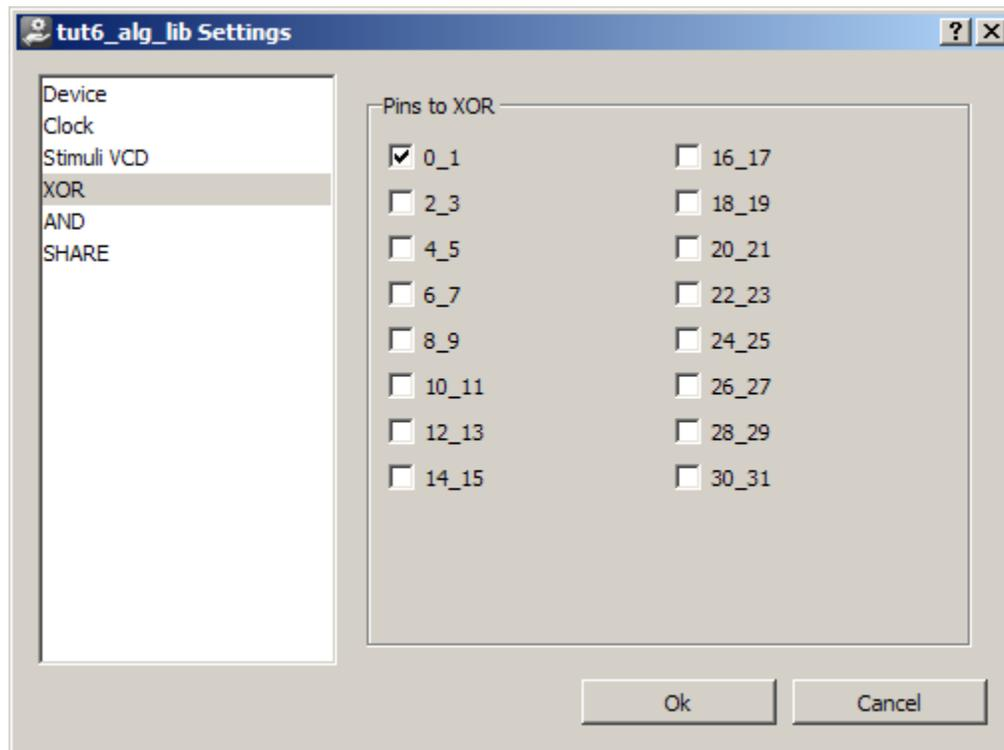
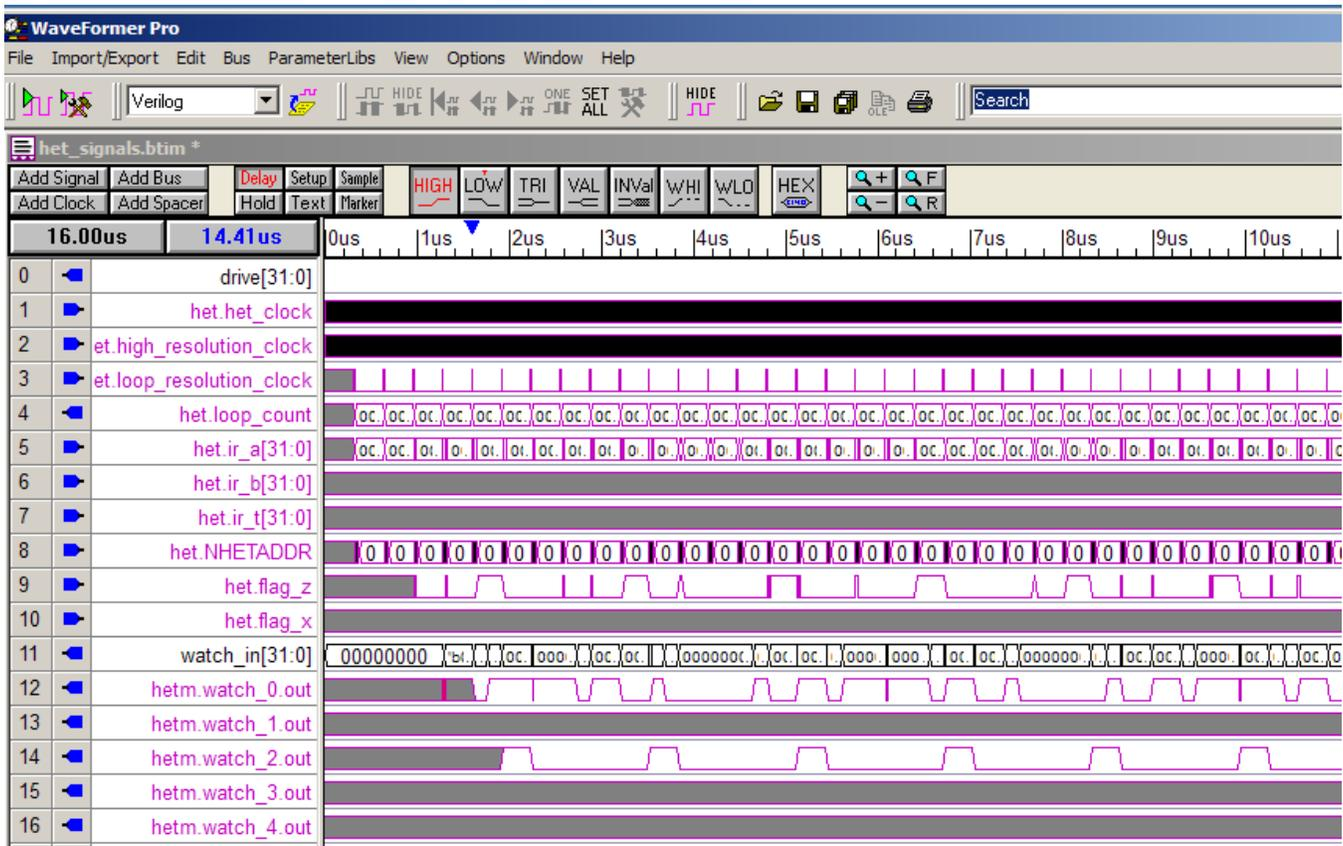

Figure 52. XOR Share Settings
Figure 53. Simulation Results Showing XOR Sharing of Pins 0,1 Output onto Pin 0
12. Right click on the project. Right click to open the project properties dialog. Select XOR from the left pane, and check 0_1 in Pins to XOR (see Figure 52). Click OK to apply the change and close the project properties dialog.
17. Stop the program and switch to the Waveform Viewer to see the results. Your simulation results should match Figure 53. Compare this result to the result shown in Figure 52. Specifically, note how the individual signals from HET pins 0 and 1 from Figure 52 have been combined into a single output on HET pin 0 in Figure 53. This shows how the XOR share function operates. In addition to simply applying the 'XOR' logical function to two different pins, the XOR share feature of the HET allows the same physical pin to be updated twice during a single loop resolution period: once by operating on HET pin 0 and again by operating on HET pin 1. Without XOR (or AND) sharing, a program is restricted to one transition per pin during each loop resolution period.